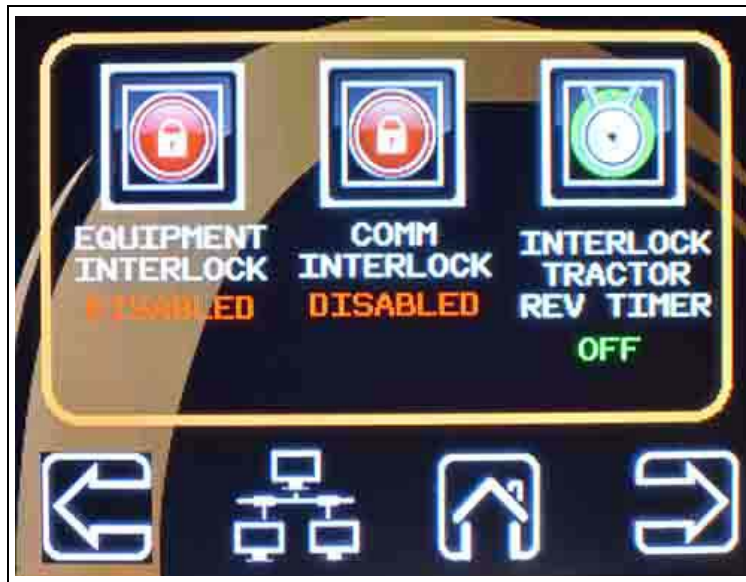

Figure 9V
1. From the interlock screen, press the “**Equipment Interlock**” icon to enable or disable. *(See Figure 9V.)*